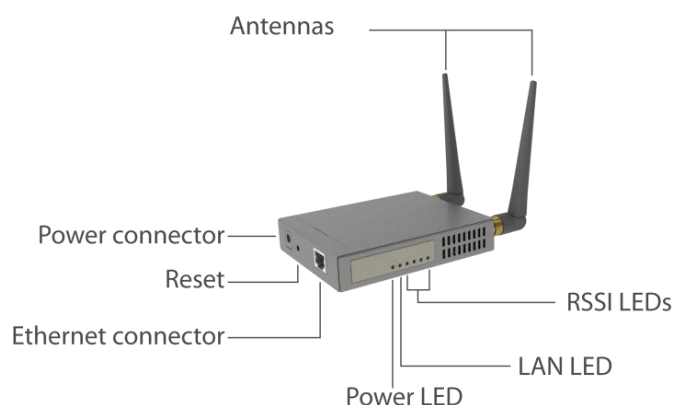

Figure 2 – APC 5Mi V2 Overview
The APC 5Mi V2 has 6 LEDs located on the side panel: power, LAN and 4 RSSI LEDs (refer at the *Figure 2 – APC 5Mi V2 Overview* for details). The various states of the LEDs indicate different connection operations as follows:
- **Reset button** (refer at the *Figure 2 – APC 5Mi V2 Overview*). Press and hold the **Reset** button for 1 second to reboot the controller; press and hold the **Reset** button for more than 5 seconds to set the controller to factory defaults.